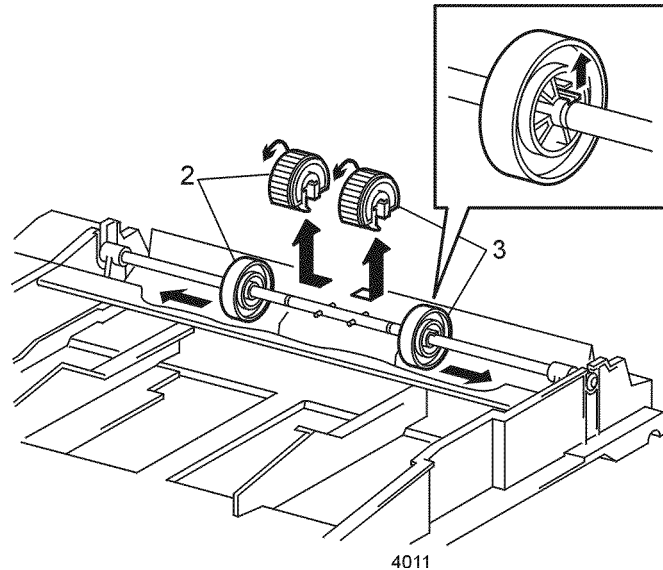

Figure 1 MBF Feed Roll Assembly
2. For the Left Feed Roll, lift the locking tab on the Left MBF Roll Core and slide the core to the left. Slide the MBF Feed Roll to the left and remove (Figure 1).
3. For the Right Feed Roll, lift the locking tab on the Right MBF Roll Core and slide the core to the right. Slide the MBF Feed Roll to the right and remove (Figure 1).